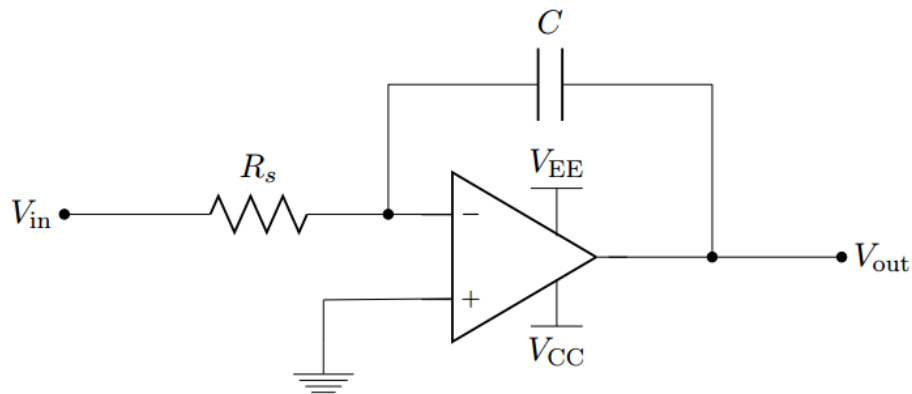

Figure 3.3: Integrating amplifier
The resistors in the inverting amplifiers can be substituted by any other type of impedance to achieve other functions rather than simple constant positive or negative gain. Change the resistor in the feedback loop to a capacitor, shown in Figure 3.3, and it becomes an integrating amplifier (integrator).
Derive the frequency response for the circuit in Figure 3.3, in terms of R_s and C , then show that the circuit performs the function of an integrator.
- Explain the function of the resistor R_f in the circuit, compared to the circuit in Figure 3.3.